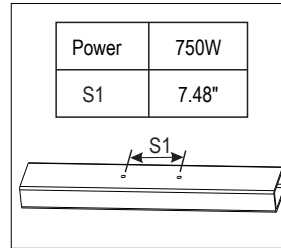

Figure 4
- Drill two holes spaced at distance S1 on the mounting bar (Figure 4).